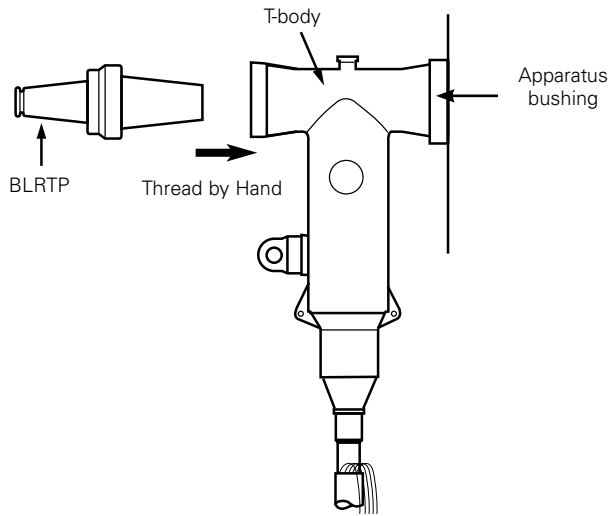

Figure 27. Line illustration of BLRTP installation.
- Insert BLRTP into back of T-body engaging the threads of the stud. See Figure 27.
- Using a 3/8" drive torque tool and HD625 (5/16" hex shaft), complete threading clockwise until tight. Torque to 55 ft-lbs. See Figure 27.